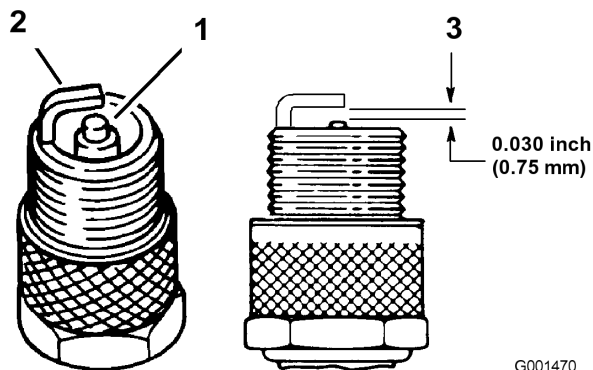

Figure 38
1. Look at the center of the spark plugs (Figure 38).
3. Check the gap between the center and side electrodes (Figure 38). Bend the side electrode (Figure 38) if the gap is not correct.